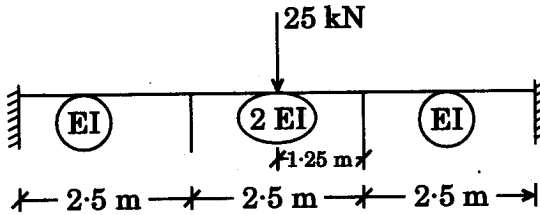

Figure 1
2. Calculate the fixed end moments and the support reactions for the fixed beam shown in Figure 1. Also draw B.M. and S.F. diagrams. 14